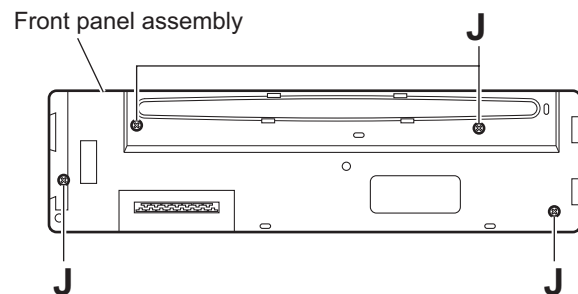

Fig.8
3.1.8 Removing the front board (See Figs. 8 to 10)
- (1) Remove the four screws J on the back side of the front panel assembly. (See Fig.8.)